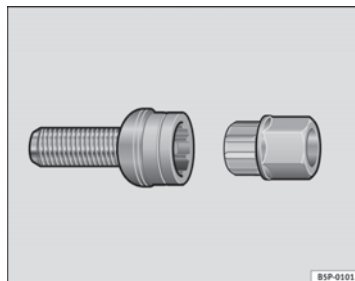

Fig. 148 Anti-theft wheel bolt
- Insert the adapter onto the wheel bolt and push it on as far as it will go ⇒ fig. 148.